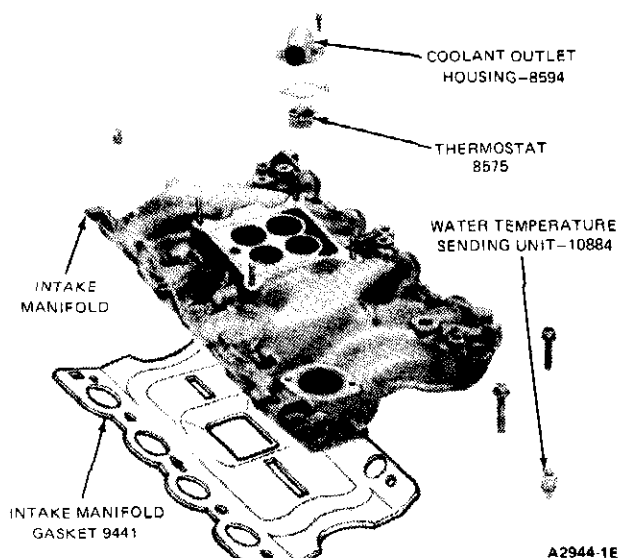

FIG. 16 Intake Manifold Disassembled
13. If manifold is to be further disassembled (Fig. 16), remove coolant outlet housing, gasket, and thermostat. Remove automatic choke heat tubes, vacuum hoses, carburetor, spacer, EGR valve and gaskets. Remove the thermostatic choke heater tube. Remove engine temperature sending unit. Discard all gaskets.